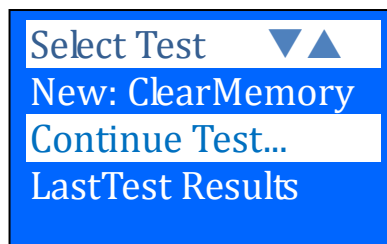

Figure 30
2. It will run through a self-test and when completed it displays the Main Menu as shown: (Fig. 30)
13. To exit the program, pressing the  key at any moment will exit and return back to the main menu screen (Fig.30).